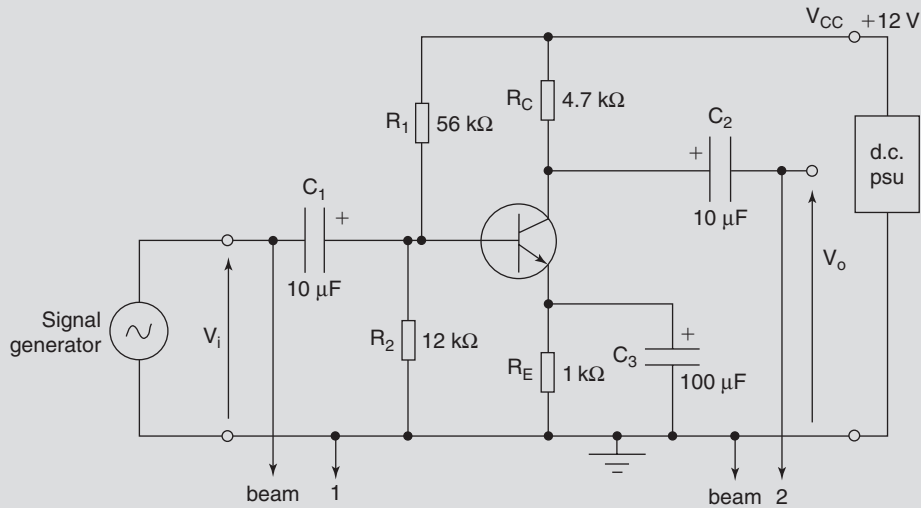

Fig. 33
- 1 Connect the circuit of Fig. 33, taking care to observe the correct polarity for the electrolytic capacitors.